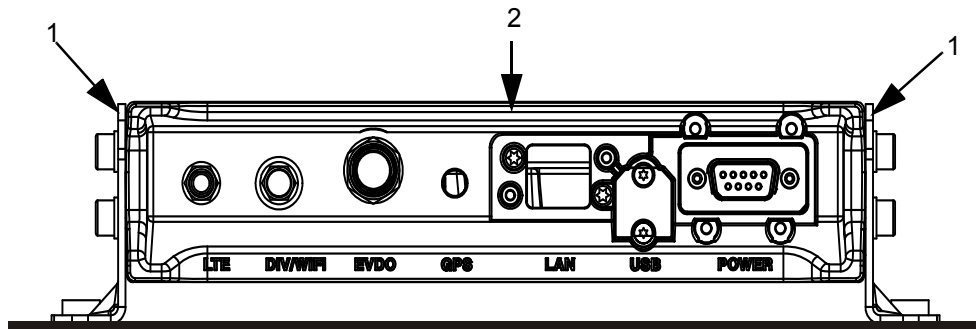

Figure 2-7 Mounting Brackets
- 1 Position the two mounting brackets (1) on both sides of the modem (2) and fasten using 4 screws each. See Figure 2-7.